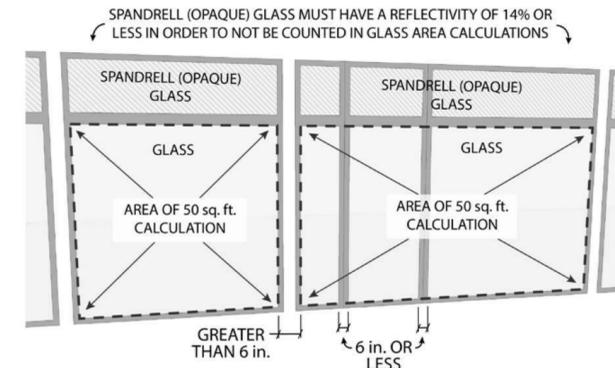

FIGURE 1 - WINDOW MULLION GRAPHIC
- Applicability:** Subsection (4) applies to all exterior construction and development activity, including the expansion of existing buildings and structures, as specified therein.
- Measuring Glass Area:** Under this Ordinance, glass area shall be measured as one (1) continuous panel of glass or other transparent material, or a set of two (2) or more such panels divided by mullions of six (6) inches in width or narrower. Panels surrounded on all sides by solid walls or mullions wider than six (6) inches shall be considered individual windows. Spandrel or opaque reflectivity of 14% or less shall not be included in the calculation of glass area. See Revised Figure 1.
- For building facades where the first sixty (60) feet from grade are comprised of greater than or equal to fifty percent (50%) glass: